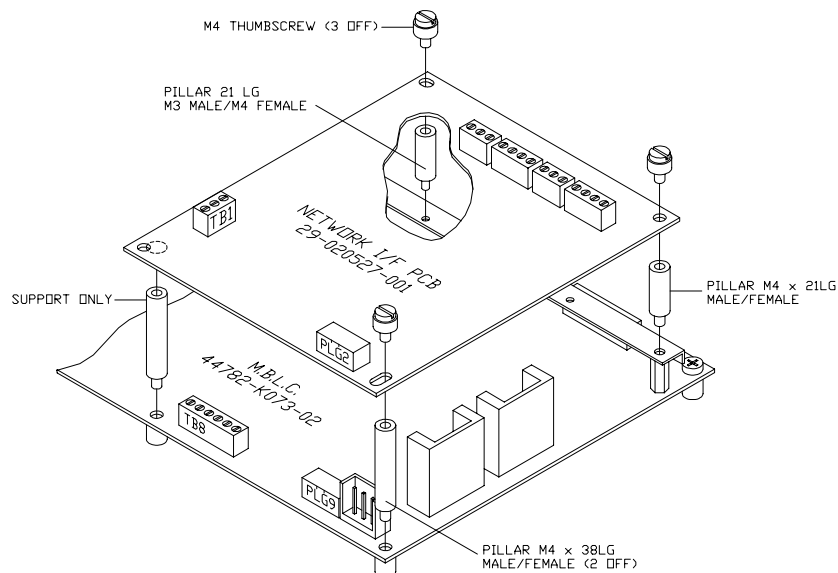

Figure 39: Network Interface Card Installation
2. Install the 29-020527-001 card using the fixings supplied above the MBLC card as shown in Figure 39.
2. Install the 29-020527-001 card using the fixings supplied above the MBLC motherboard card as shown in Figure 39.